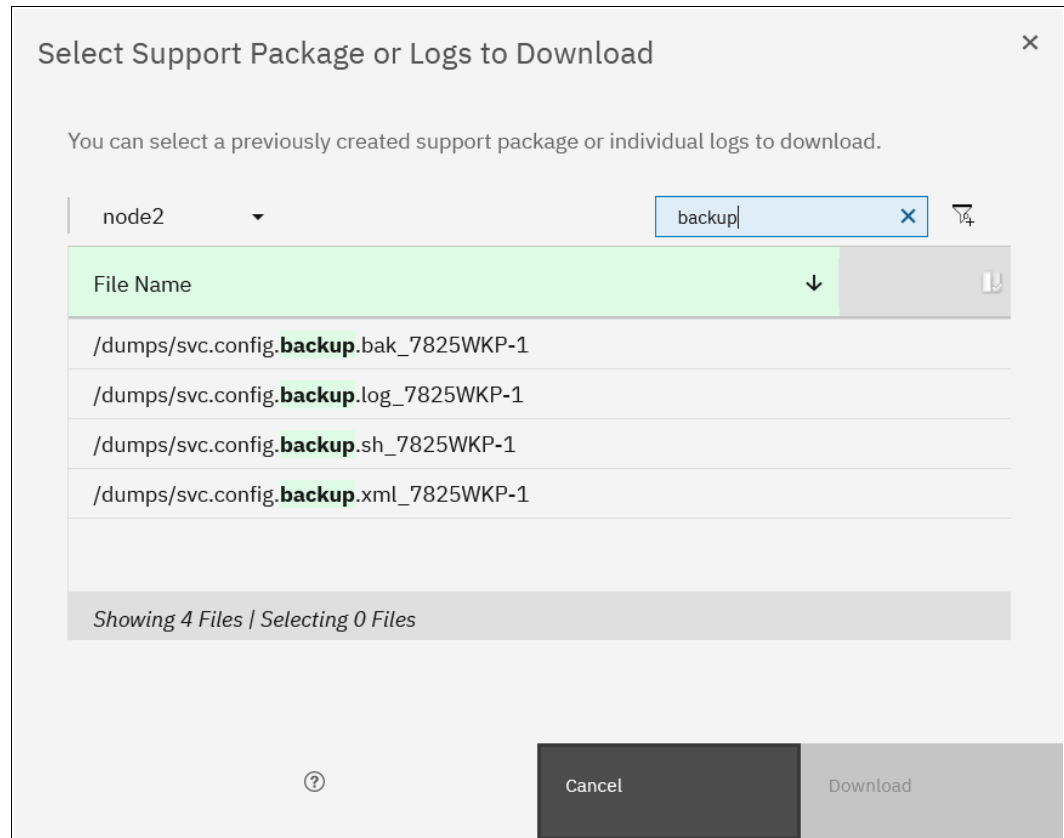

Figure 13-14 Filtering specific files for download
4. Filter the view by clicking in the **Filter** box, and then, entering backup and press **Enter**, as shown in Figure 13-14.